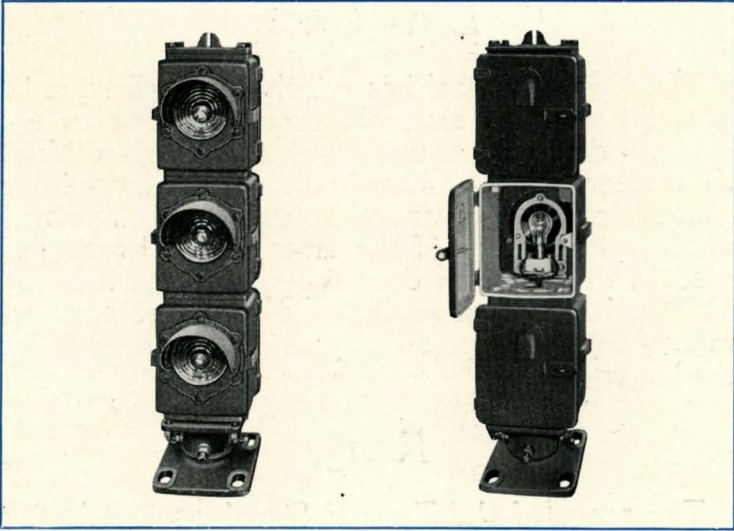

Figure 11 Type F Three-Indication Color-Light Dwarf Signal
**T**HE Type F Color-light Signal is of the same construction as the Type D Signal, formerly described, but is made smaller in size for use where clearances will not permit the installation of the larger size unit. It is an efficient short-range signal that is particularly well adapted to electric railways either of the elevated, surface or subway type. It is also being used extensively as a dwarf signal on steam railways. Figure 11 shows front and rear views of this signal mounted as a dwarf signal and gives a good idea of its construction.